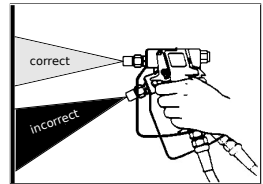

Fig. 19: Spray angle
- ▶ Hold the spray gun at a right angle (90°) to the surface to be coated. As soon as you hold the spray gun at a different angle, the coating will become uneven and patchy (see Fig. 19).